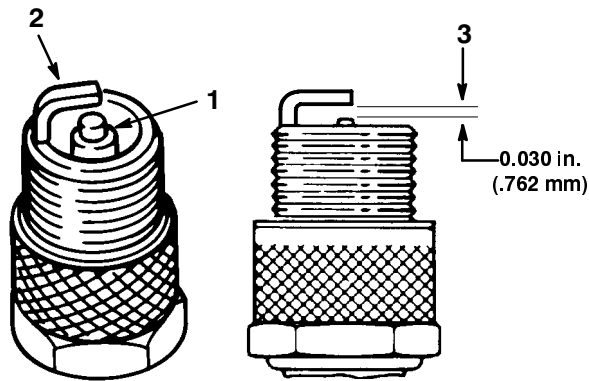

Figure 24
1. Look at the center of the spark plug(s) (Fig. 24). If you see light brown or gray on the insulator, the engine is operating properly. A black coating on the insulator usually means the air cleaner is dirty.
2. Check the gap between the center and side electrodes (Fig. 24). Bend the side electrode (Fig. 24) if the gap is not correct.